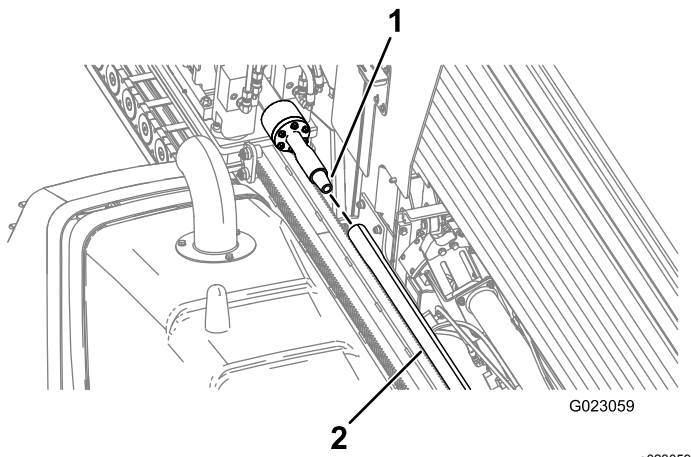

Figure 56
9. Rotate the drill spindle clockwise, and move the carriage slowly forward to insert the spindle into the female end of the pipe (Figure 56).
9. Rotate the drill spindle clockwise and move the carriage slowly forward to insert the spindle into the female end of the pipe (Figure 56).